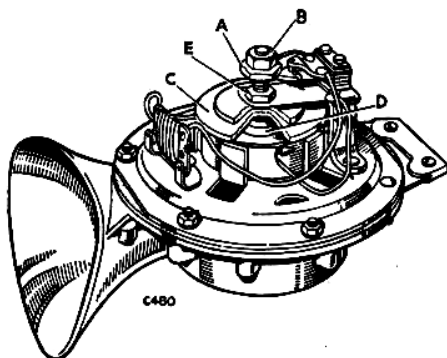

Fig. P-30—Horn adjustment. Clear Hooters.
5. Connect the horn leads to a 12-volt battery and adjust nut (A) until maximum volume is obtained, then lock in position with nut (B). See Fig. P-30.